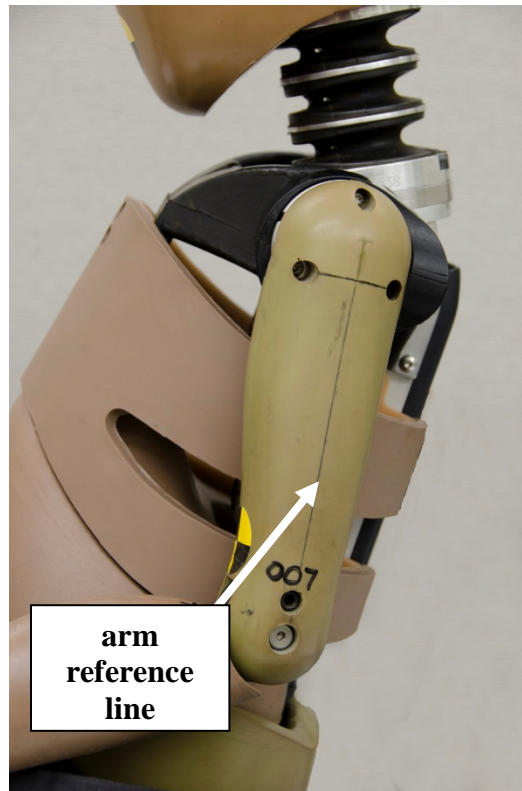

Figure 81. Draw a reference line on the upper arm
- Draw a reference line between the center of the shoulder and the bolts at the distal (elbow) end of the upper arm. (Figure 81).